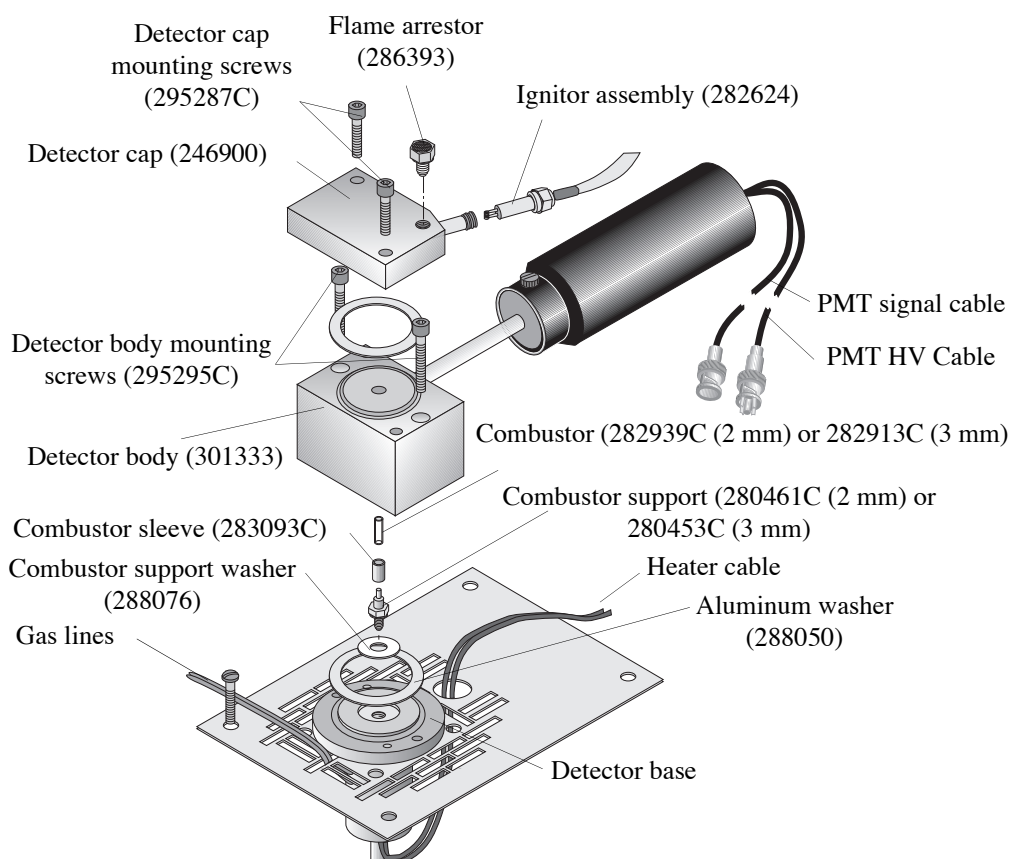

Figure 4.35. Model 5380 PFPD assembly
- Using the $\frac{7}{64}$ " Allen wrench supplied in the PFPD startup kit, remove the two detector cap screws (PN 295287C) from the detector cap (PN 246900) (Figure 4.35).
- Use the $\frac{7}{64}$ " Allen wrench to remove the two detector body screws from the detector body (Figure 4.35).
Place a new aluminum washer (PN 288050) on the detector body. Use clean metal forceps to place and center the new washer on the center hole in the detector body (Figure 4.35).